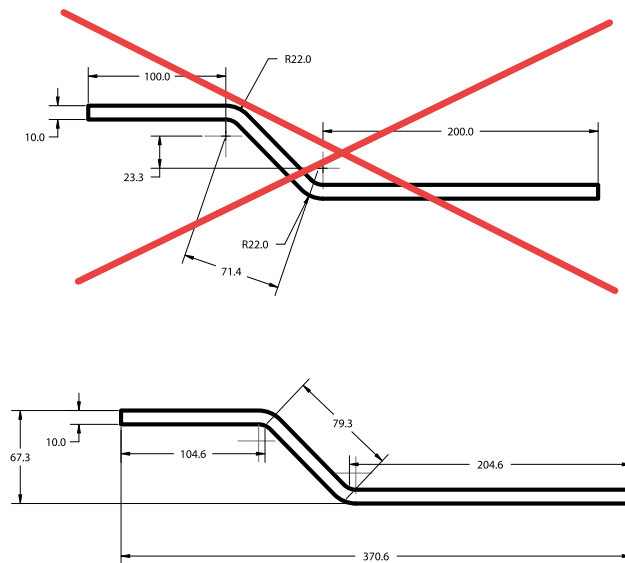

Fig. 3.1
- When inscribing the dimension required for production, ensure that this is directly applicable. (Fig. 3.1)